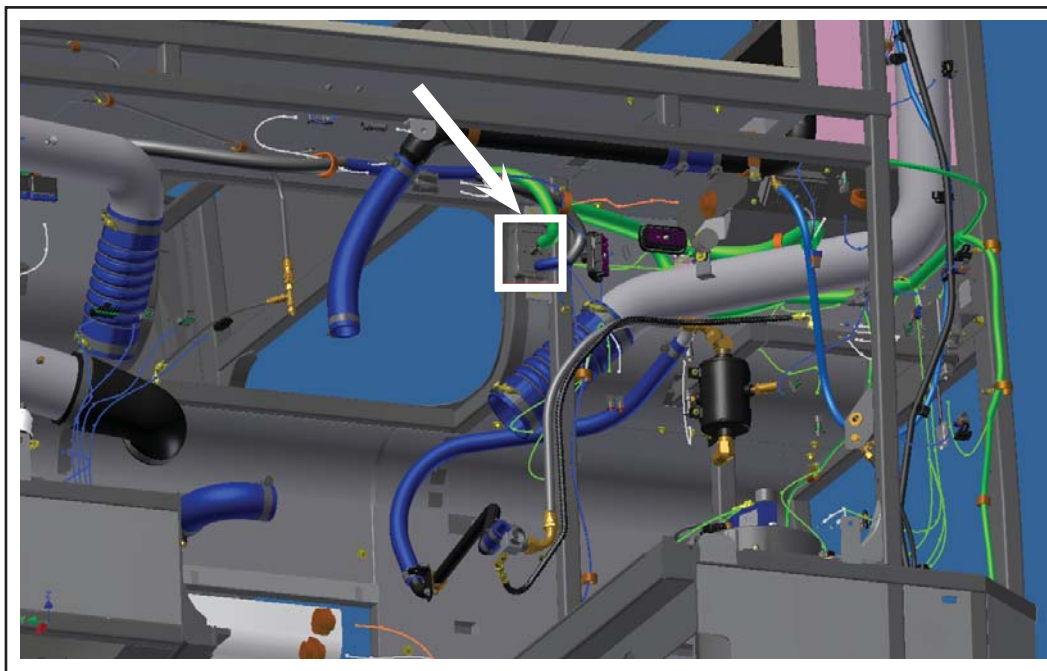

Figure 8 - Location of the +MT-X9561A Connector
- 1.14. Locate the +MT-X9561A connector in the engine compartment. See Figure 8.